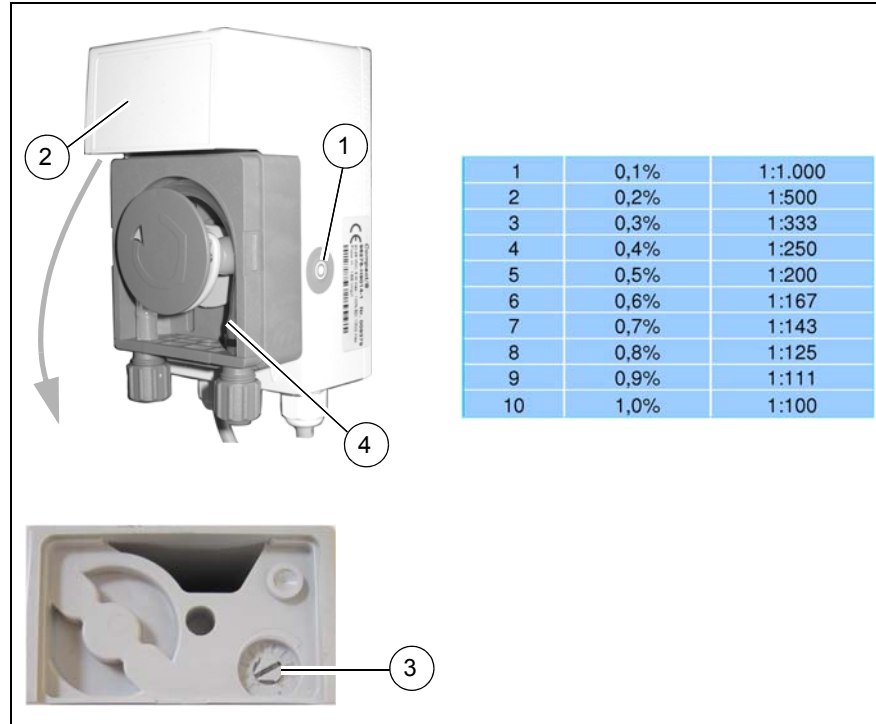

Fig.8
4. Press the quick fill switch (Fig. 8/1) on the dosing pump until the chemical is at the non-return valve.
1. Remove the gray cover (Fig. 8/2) from the dosing pump.
Set rotary knob (Fig. 8/3) between positions 1 and 2, refer to table.
Check the hose section (Fig. 8/4) in the hose pump (length approx. 23 mm) and replace, if necessary.